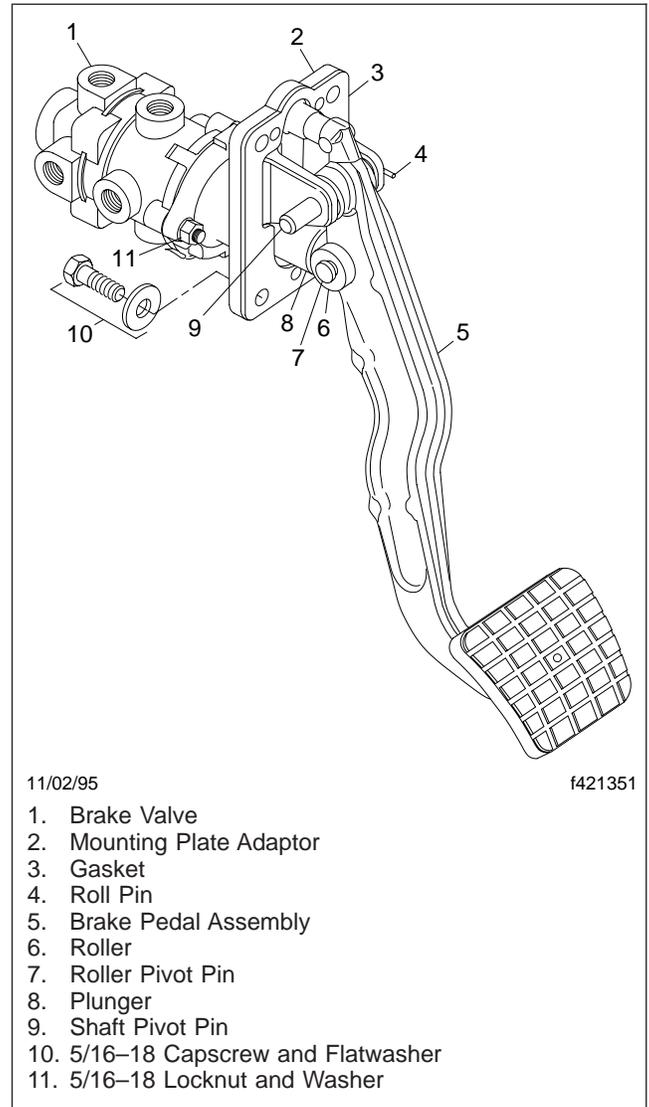

Fig. 1, Brake Valve Mounting
4. Install the brake valve and mounting adaptor on the outside of the front cab mount plate. Install the adaptor mounting capscrews and flatwashers. Tighten the capscrews 10 to 13 lbf·ft (14 to 18 N·m). See Fig. 1.